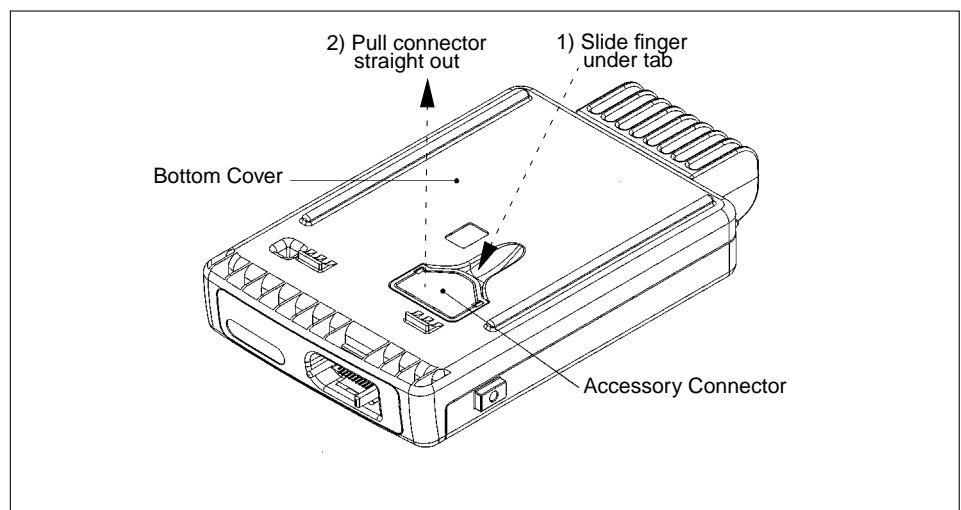

Figure 5-10 Removing the Accessory Connector
3. Remove the Accessory Connector by sliding a finger into the recess on the bottom cover and pushing up on the connector tab to loosen the connection. Lift the connector out of the recess. See Figure 5-10.